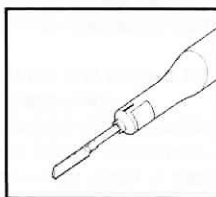

Figure 2.
3. Release the button. The button should return to its original position and engage the blade (see figure 2).